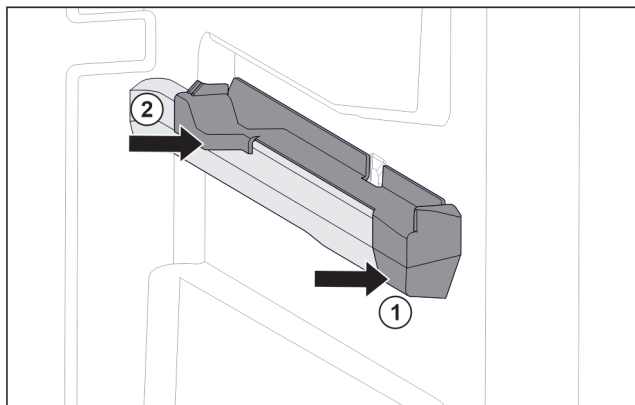

Fig. 129 Attachment on the right moulded rib
- Position attachment on moulded rib at the front. *Fig. 129 (1)*
- Press on attachment at the back. *Fig. 129 (2)*